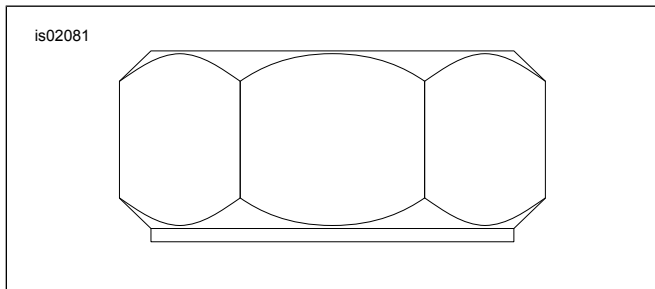

Figure 2. Fork Stem Nut (Stepped Side Down)
7. Place the upper billet triple tree clamp (5), with the large diameter bore up and the tapered bore down, against the tapered side of the adjusting nut on the fork stem.
8. Slide the Belleville washer (4), concave side down, onto the fork stem.
9. Thread the new fork stem nut (3), stepped side down (See Figure 2.), onto fork stem. Finger tighten only at this time.